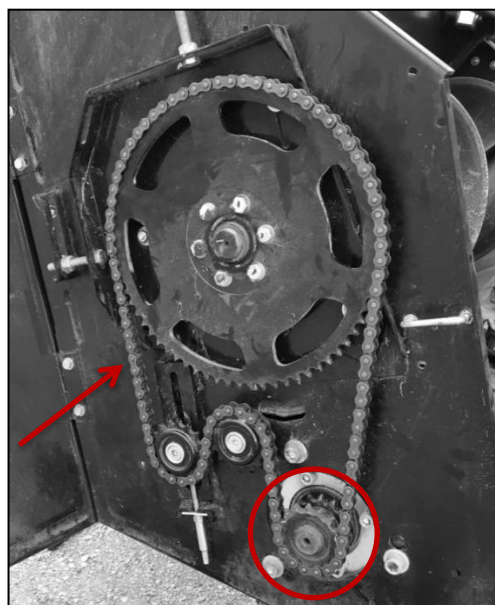

Figure 19: Auger drive chain deflection measurement (red arrow) and drive sprocket (red circle)
13.5. Ensure high speed auger drive sprocket (16T) is installed (Figure 19).
- 13.6.1. Ensure there is between 0.5” and 0.75” of total deflection at mid-span (red arrow, Figure 19).